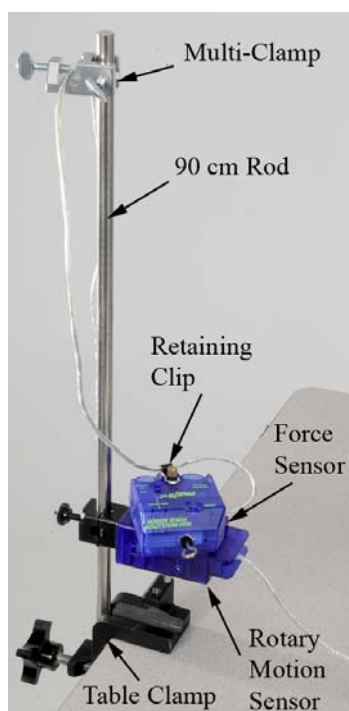

Figure 2: Rotating Force Sensor
1. Use the 90 cm Rod and Table Clamp (see Figure 2) to suspend the Rotary Motion Sensor.
5. Drape the Force Sensor cord over the Multi- Clamp (see Fig. 2). Keeping the cord vertical minimizes the torque of the cord.